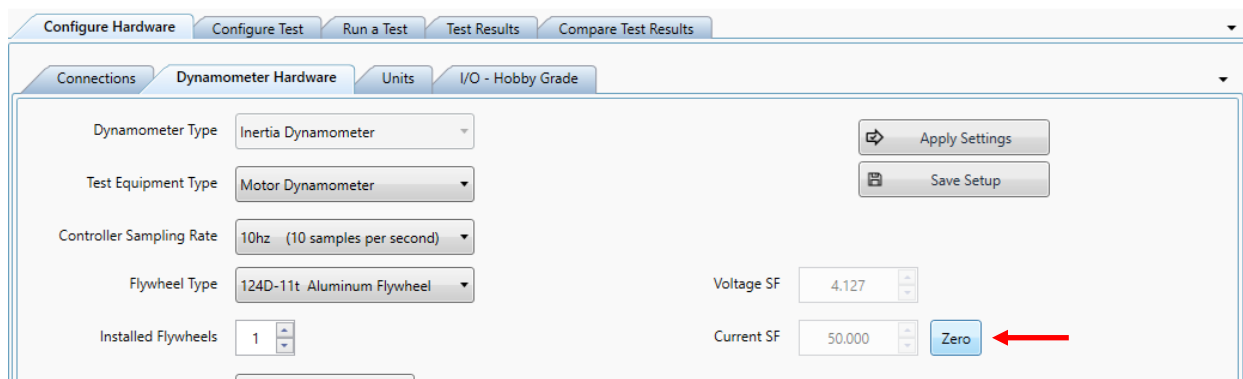

Figure 8: Current Sensor Calibration
16. Press the Zero button next to Current SF text box (see Figure 8).